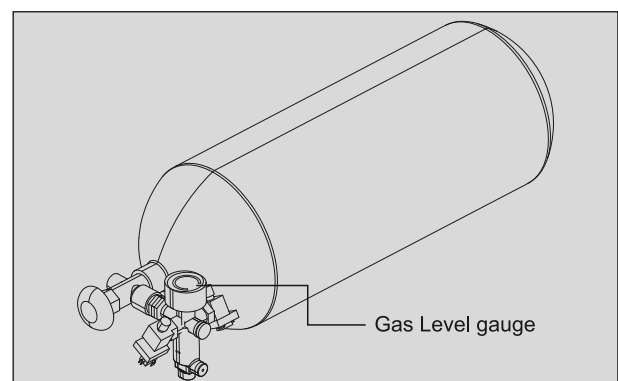

Fig. 6.75
- The gas level indicator, CNG gets input from pressure gauge by blue (Bl) wire and Pink (P) wire. It is earthed by black with white tracer (BW) wire. (Fig. 6.75)
- Measure the voltage between Pink (P) and Black with white tracer (BW) wire.